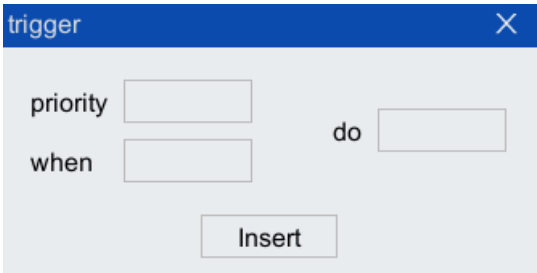

Figure 5-48 "Trigger" Instruction configuration interface
Step1.Click "Insert Cmd> Interrupt Trigger> trigger" option in the toolbar of the program editor to pop up "trigger" instruction interface as shown in Figure 5-48.